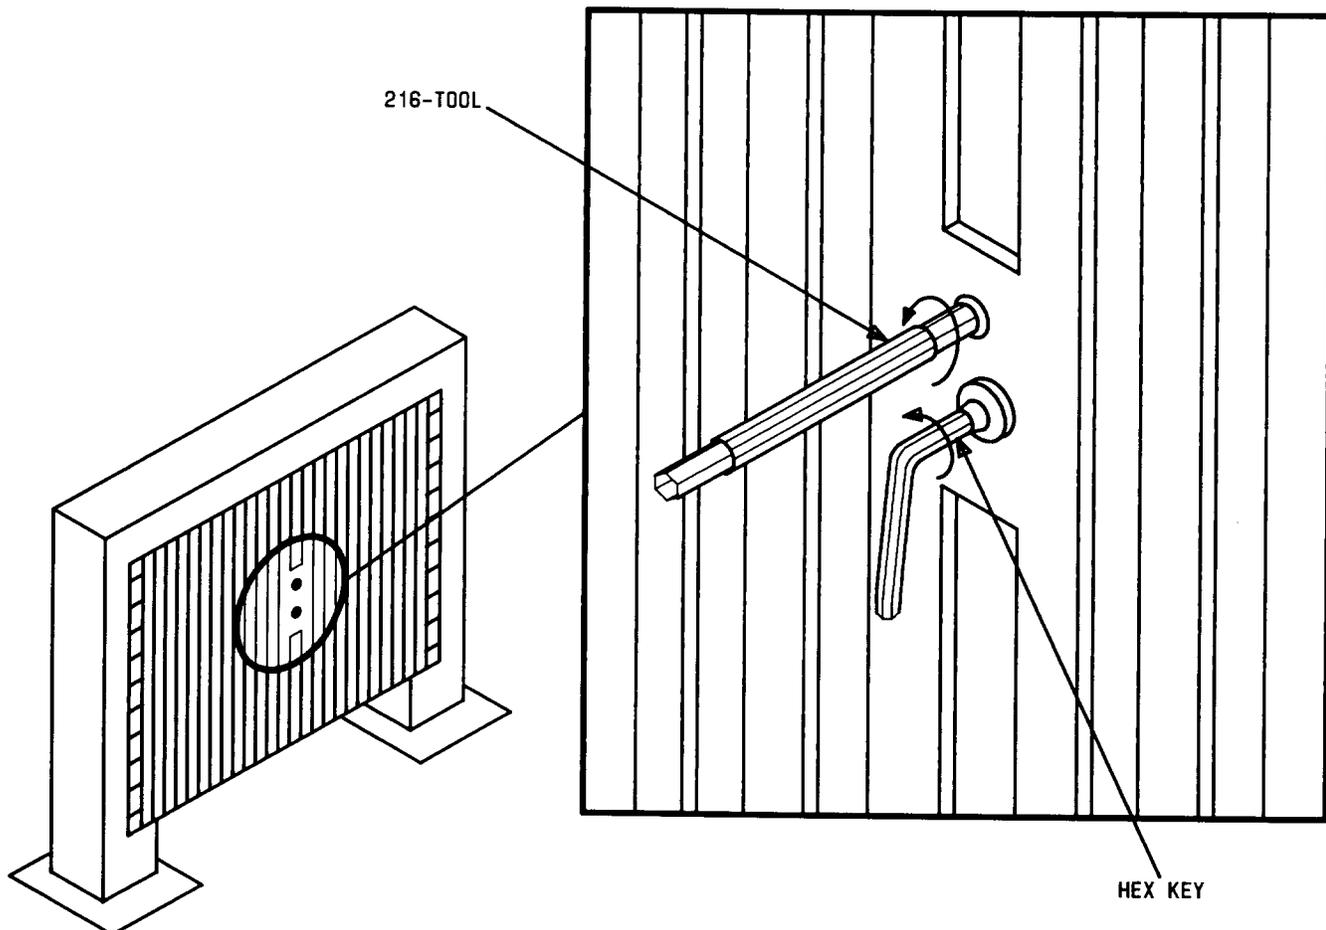

Fig. 1—Opening System Side of Cabinet With Hex Key and 216-Tool
1. Use special hex key (allen-type wrench) and 216-tool to open door on system side of cabinet (Figure 1).